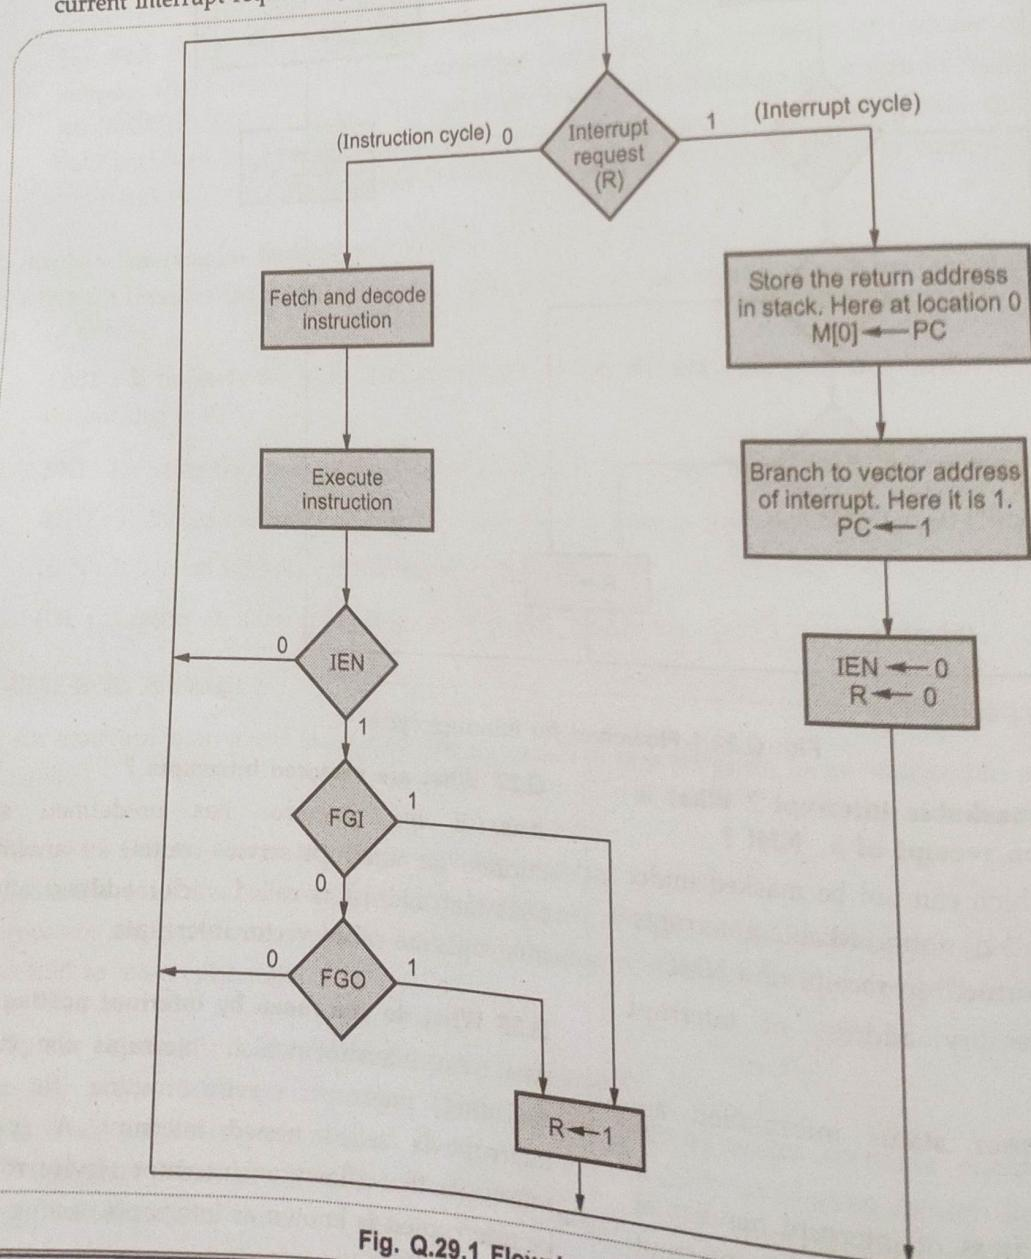

Fig. Q.29.1 Flowchart for interrupt cycle
**Ans. :** Fig. Q.29.1 shows the flowchart for interrupt cycle in our basic computer organization. When interrupt flip-flop (R) is 0, computer goes through instruction cycle. After execution of current instruction IEN flag is checked. If it is 0, computer goes to the next instruction cycle. If IEN is 1, control checks flag bit (FGI and FGO). If both flags are 0, it indicates that neither input nor the output registers are ready for transfer of information. In this case computer goes to the next instruction cycle. However, if FGI or FGO or both equal to 1, flip-flop R is set to 1. Before proceeding to new instruction cycle, control checks the R flip-flop, if it is 1, it goes to an interrupt instead of an instruction cycle.